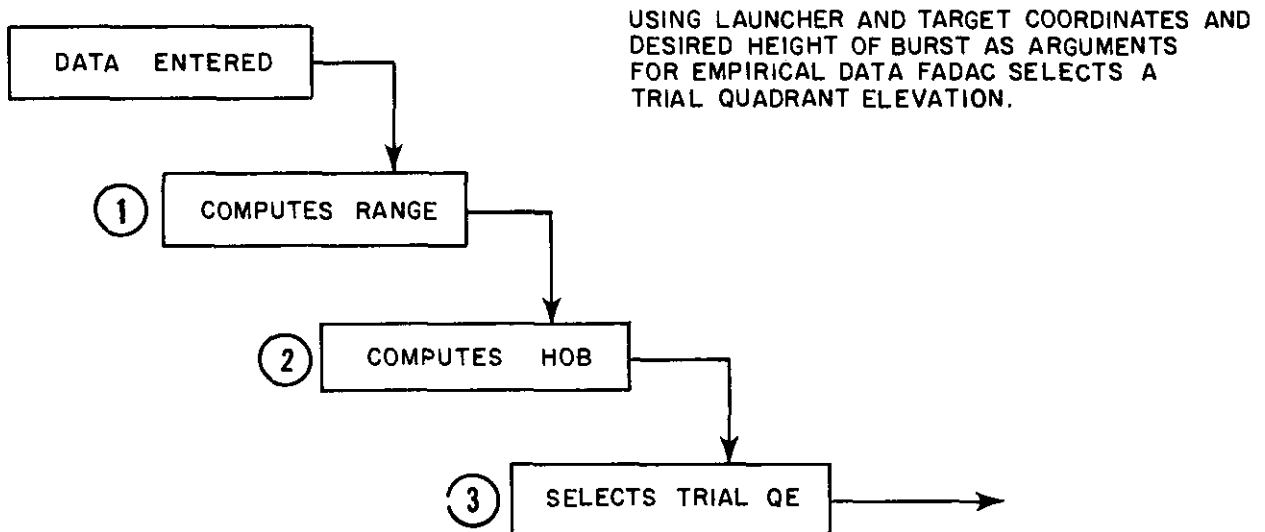

Figure 9. Steps 1 through 3 of computation.
- (1) Range, azimuth, and initial firing data selection.
- (2) Data computation for powered flight.
- (3) Trajectory computations for free flight.
b. The series of computations made by the computer are depicted in figures 9 through 12. The six steps are explained below:
- (1) *Steps 1 through 3.* Using the coordinates of the firing position and the target, FADAC mathematically calculates the range and azimuth of fire. Then, using the other initial data entered, it calculates the height of burst relative to the launcher. From this information, the computer selects a trial quadrant elevation based upon the empirical data entered in its memory.